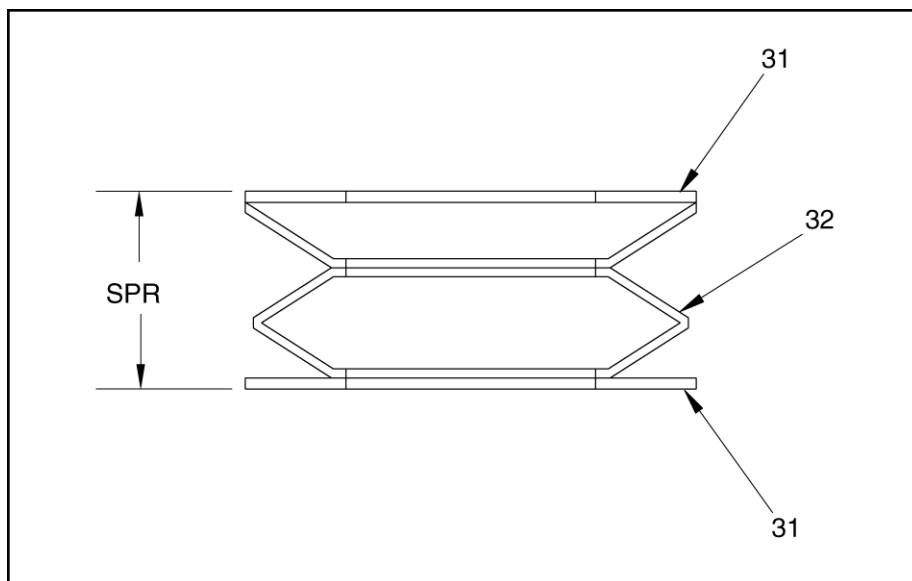

Figure 16.4 SPRING ASSEMBLY
1. Measure spring (32) & washers (31) shown in figure 16.4 (SPR).